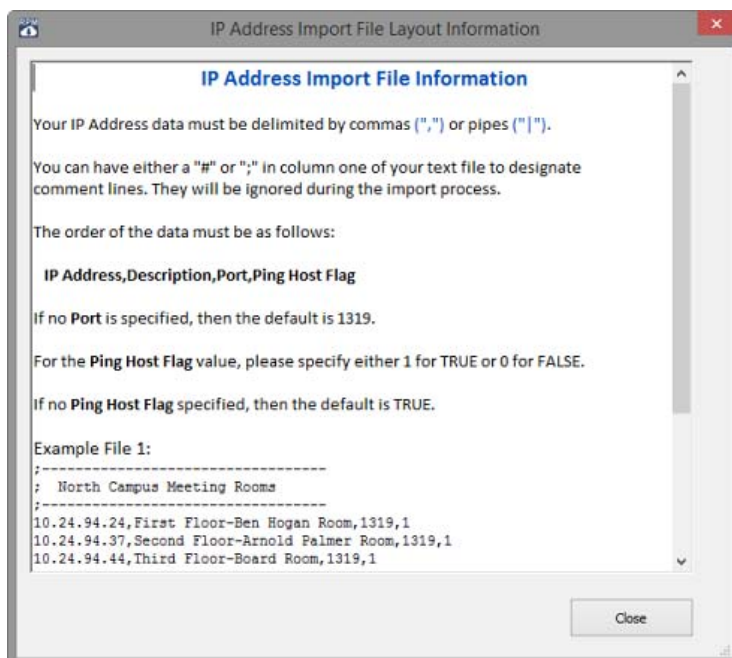

FIG. 68 IP Address Import File Layout dialog
4. Click **Import File Layout** to open the *IP Address Import File Layout Information* dialog (FIG. 68):